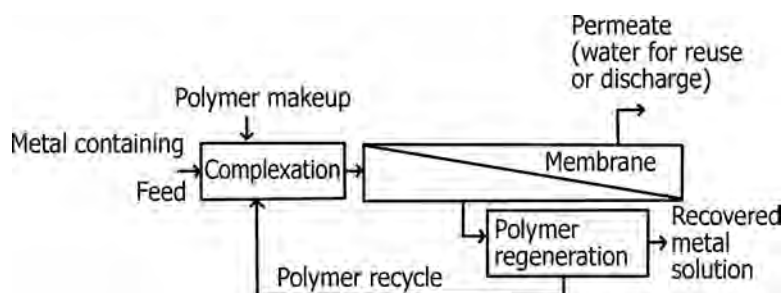

FIGURE 18.60 Polymer-enhanced ultrafiltration flow diagram.
- Polymer can be recovered and recycled through the complexation-decomplexation cycles. Figure 18.60 illustrates the process.